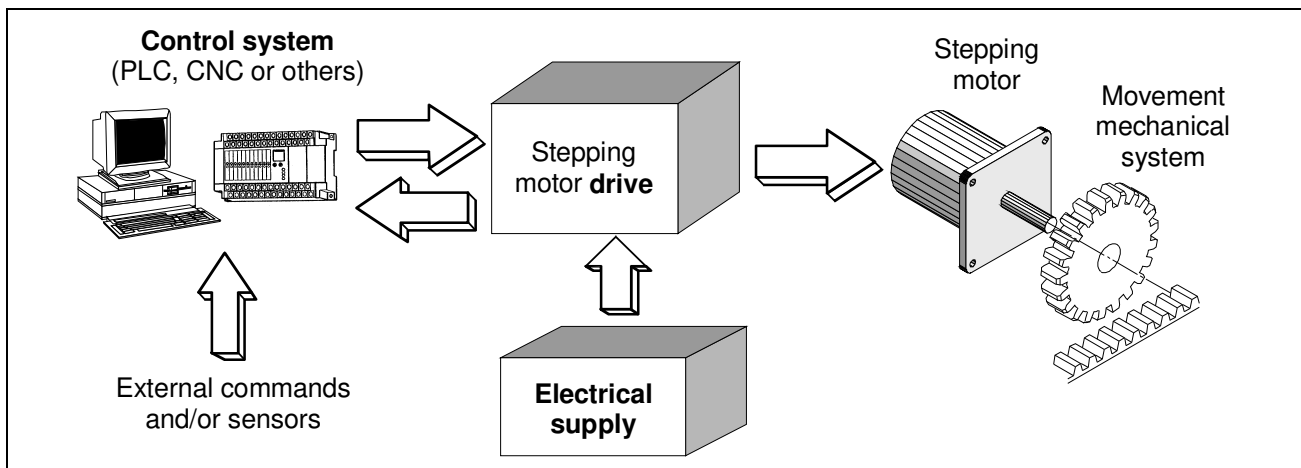

Figure 1
1.2. For the purposes of this manual the terms used assume the meaning below described (see Fig. 1).
- **Drive:** electronic part of an electromechanical motion system, which receives some digital or analog input signals from an external control system and gives to the stepping motor the suitable phase excitation sequences, in order to obtain the mechanical movements required by the control system. The drive can also communicate its status to the control system through some logic signals. In this manual we consider the drive as a BDM (EN 61800-3, chap.3, Fig.1).